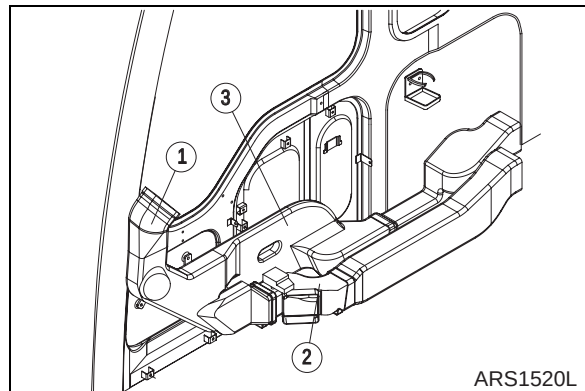

Figure 12
14. Install air duct (3, 2 and 1, Figure 12) located at right side of cab.
NOTE: Connect wire connector of duct (2, Figure 12).